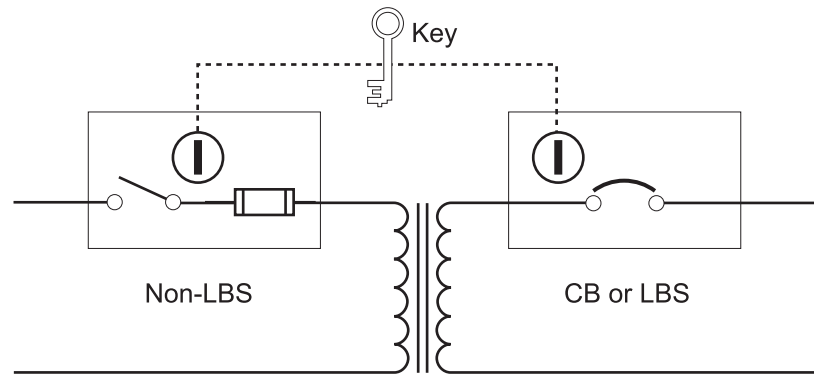

Figure 2—Typical key interlocking of a CB and non-load-break (disconnect) switch
Non-load-break switches are often interlocked with their associated circuit breaker (CB) to prevent the switch from being opened or closed under load conditions (Figure 2). When the switch is in the closed position, it requires a key to release a mechanical linkage that prevents the movement of its handle. This key is held captive in the CB if the CB is closed.